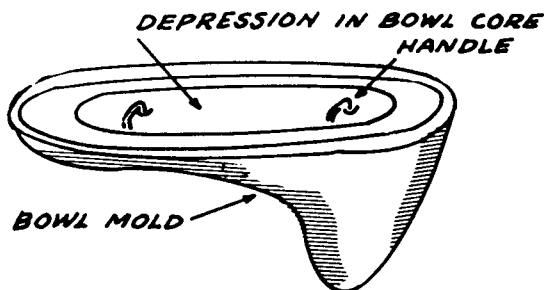

FIGURE 3 BOWL CORE HANDLES
2. A concrete bowl core for shaping the inside of the bowl (see Figure 3).
3. After the bowl core has become firm enough, scoop a depression into the surface to install two steel hooks made from the reinforcing rod. They should be about 22.5cm (9") apart, and should not protrude above the surface of the concrete. See Figure 3.